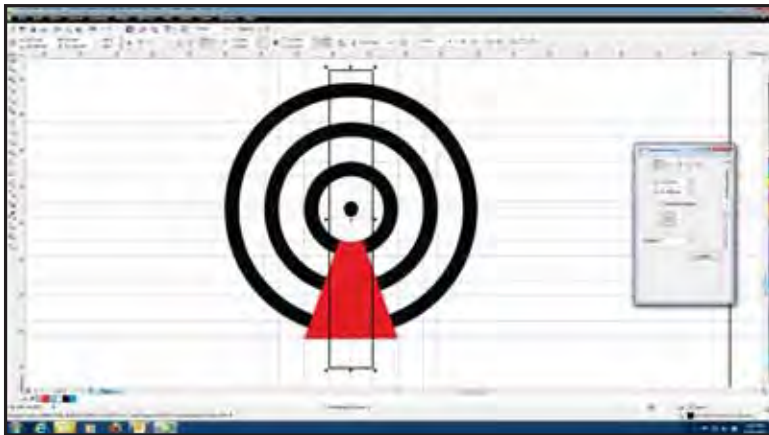

Fig.15
- 1. Draw a large box which goes above and below the outer circle. Put in two new guidelines 3mm to left and right of centre, and snap edges of box to these. See Fig 15.